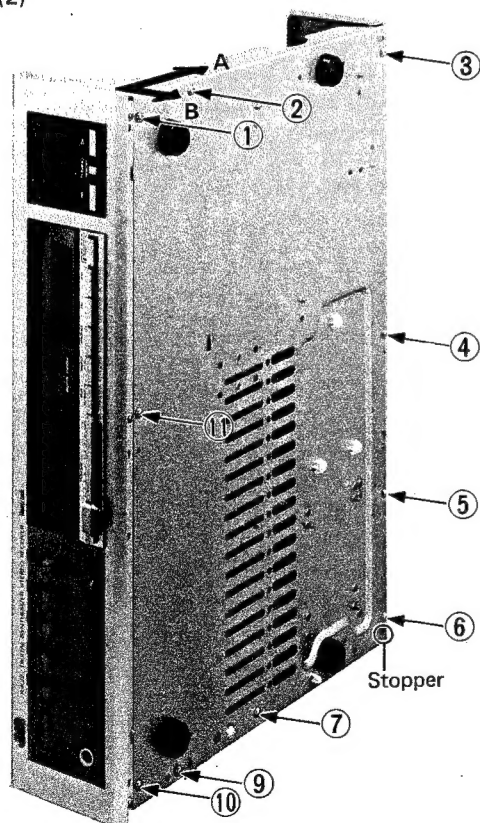

Fig. 5
- (3) Remove screws ① - ⑪ on the chassis base. (Fig. 5)